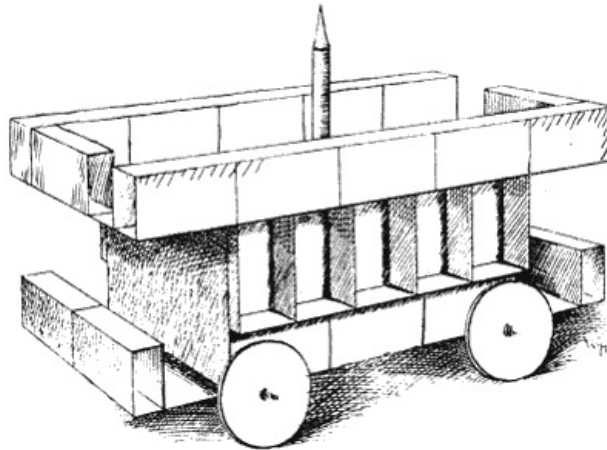

FIG. 24.
*Tram Car.*—In the first place you want two pieces of veneer or cardboard, measuring 11-1/4 by 4-3/4 in. and 11-1/4 by 5 in.—to act respectively as the lower and upper decks. The actual method of construction can best be understood by a careful study of Fig. 24. The lower deck rests on four cardboard wheels. These are fixed by means of doll pins to two wooden axles (match stales) glued right across the under side of the lower deck. On this the structure is built up with match boxes. Three covers are placed lengthways along each side and glued into position. Then above these come five match trays, which, when standing up, take up just the same space. These are glued into position, facing outwards, and projecting about 1/4 in. beyond the under covers.